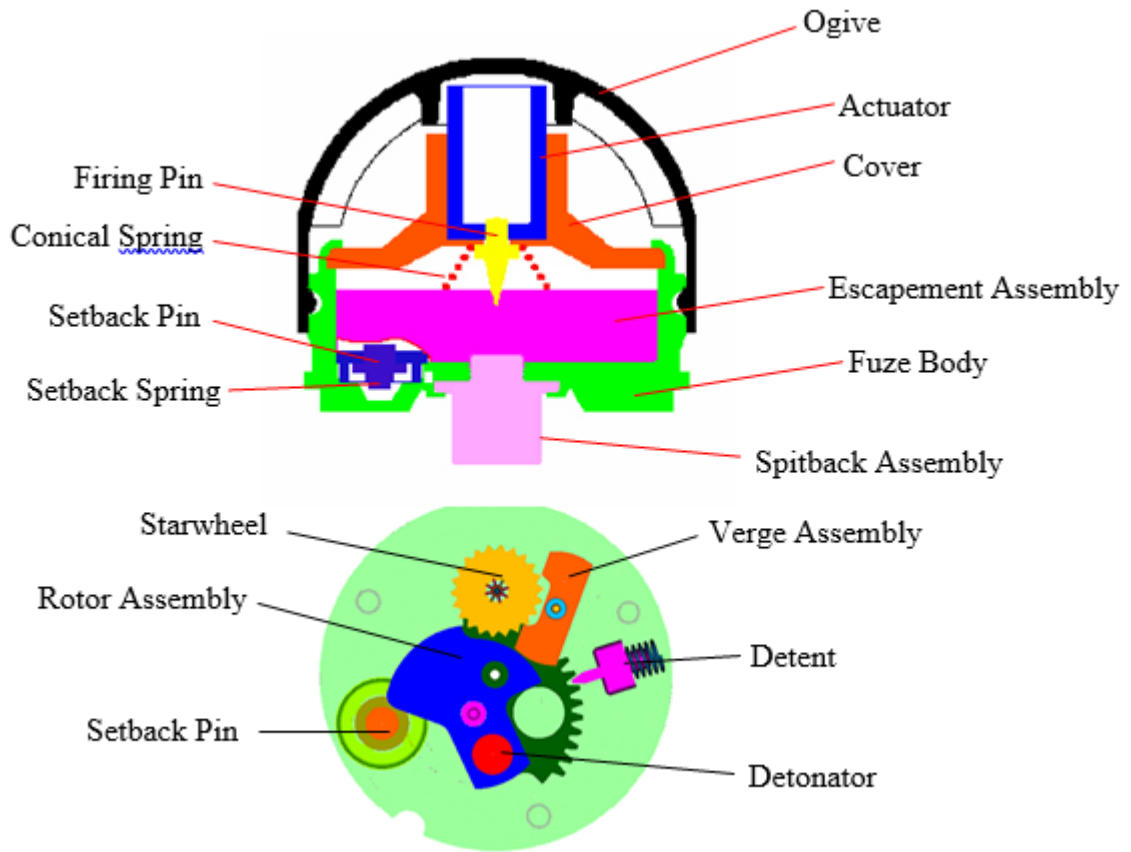

Figure 4: Muzzle Safe
7.1.2.2 Muzzle Safety (Figure 4)